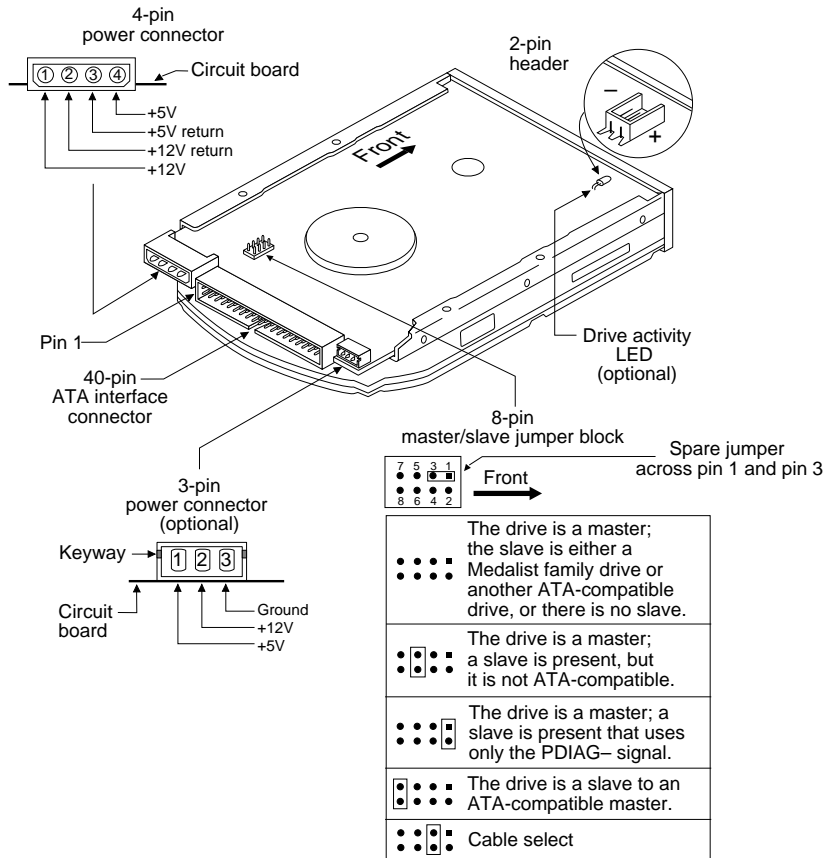

Figure 3. Connectors and jumpers
This section discusses the ATA interface connector and other physical features of the drive, including mounting. Figure 3 on page 13 shows the location of the following features:
Figure 3 shows the location of the master/slave jumper block and shows how to install the jumpers for various configurations. The jumper block accepts 2-mm (0.079-inch) jumpers. A spare jumper is attached to the jumper block. If you need additional jumpers, use Seagate part number 10562-001 or an equivalent.
- Install a jumper on pins 3 and 4 of the master/slave jumper block as shown in Figure 3 on page 13. When a jumper is installed in this position, the drive ignores the jumper installed on pins 7 and 8.
The drive is available with or without the external activity LED shown in Figure 3 on page 13. This option is available for users for whom the activity display through the bus is inaccessible or inconvenient. There are two LED options: